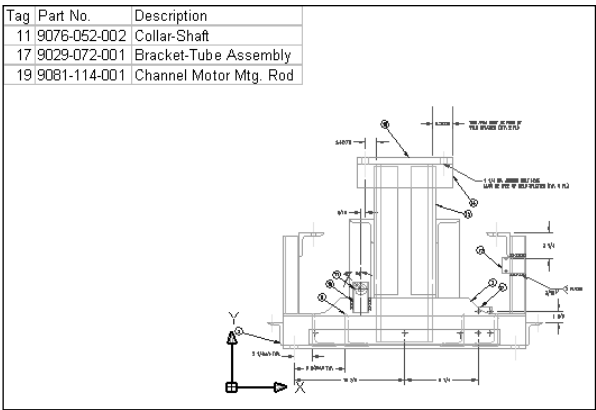

Figure 27-16: The spreadsheet inserted into the drawing.
5. In the spreadsheet application, choose `File` ⇨ `Update` and then choose `File` ⇨ `Exit`. The worksheet appears in the drawing, as shown in Figure 27-16.